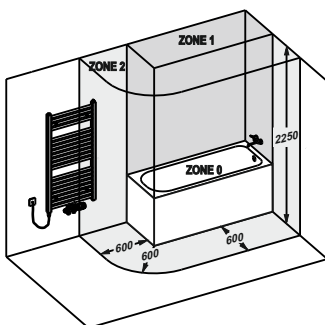
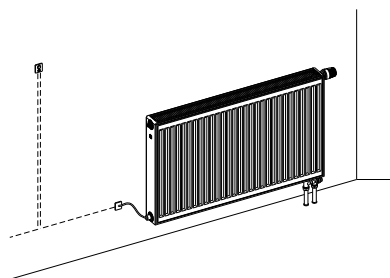
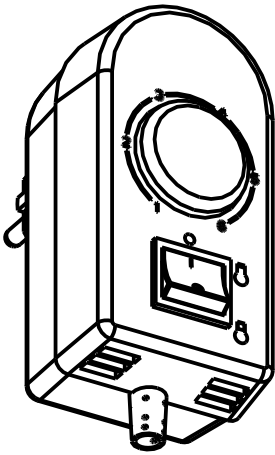

Fig.1
Fig.2
Fig. 4 T joint (Z-SKV-0001)
Horizontal in the bottom part of the radiator – this applies for RADIK COMBI VK (see Fig. 2)
**The EHE must not be located in bathrooms and showers inside the bath or shower or even above the bath or shower (zones 0 and 1 according to ČSN 33 2000-7-701, see Fig. 1). The power supply for the EHE must meet the requirements for connection of class 1 appliances and must be protected with an appropriate and functioning circuit breaker. If the EHE is not connected to the mains with the fitted plug, a switch must be fitted to the EHE power supply, which allows the user to safely disconnect it from the mains if necessary.**
Slide the EHE carefully into the KORALUX tubular radiator from the bottom (see Fig. 1, 3), or from the side into the lower bushing of the RADIK COMBI VK radiator on the side opposite to the valve (Fig. 2) and tighten it using a size 22 spanner. The EHE must not be tightened by the metal bushing for the connection cable! If the specific situation in question requires that the return branch of the hot-water system is connected to the radiator input where you are fitting the EHE, use a T-joint specially designed for this purpose (KORALUX accessories – trade name T Joint – Fig.4).